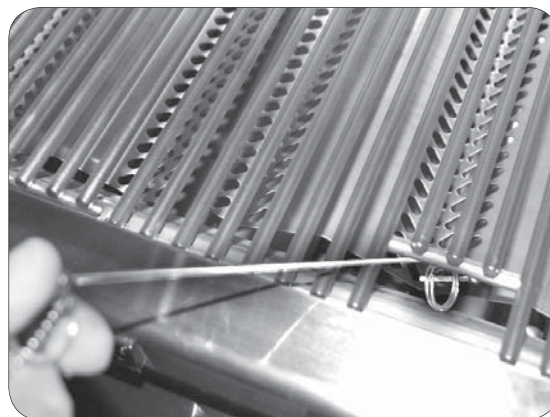

Fig. 19-2 - Manual lighting
**CAUTION:** Always wait five (5) minutes for gas to clear after any unsuccessful lighting attempt.
2. Insert either a burning long-barrel butane lighter, a burning long-stem match, or a burning match held by a wire extension holder through the cooking grid opening to the top of the burner (Fig. 19-2).
4. If the burner does not light within five (5) seconds of turning the control knob, **immediately depress the knob and turn the valve to OFF**. **WAIT FIVE (5) MINUTES** before repeating steps 2 through 4 of the **MANUAL LIGHTING** instructions.